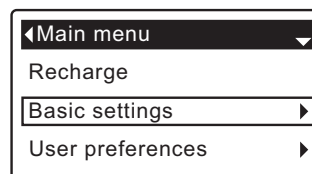

FIG. 42
2. Make sure **Recharge** is highlighted (See Figure 42).
1. From any of the rolling status screens, press the SELECT (O) button to display the **Main menu**.
2. Press the DOWN (▼) button to scroll through the menu options until **Basic settings** is highlighted (See Figure 42).